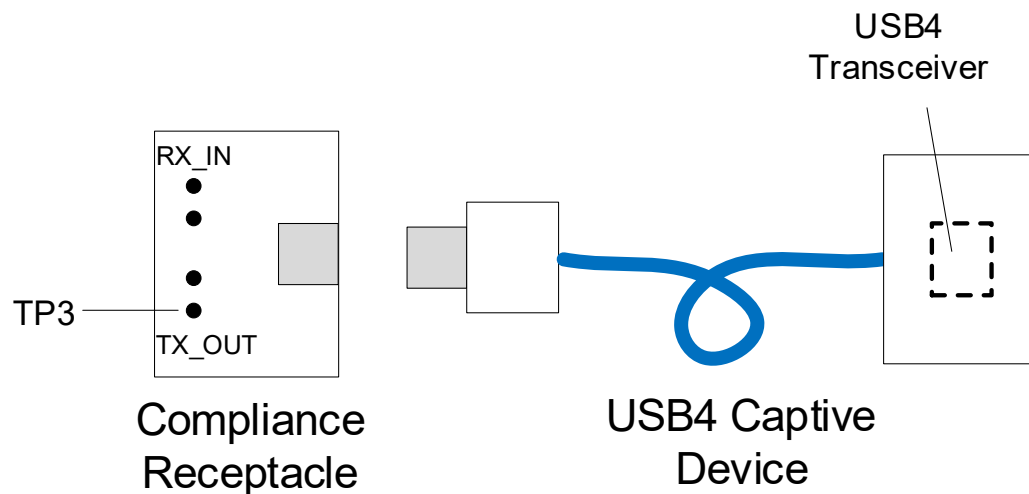

Figure 17. USB4 Captive Device TX Compliance Point Definition
- Captive Device transmitter compliance testing is defined at the output of a compliance receptacle test fixture referenced to TP3 compliance point as depicted in Figure 17